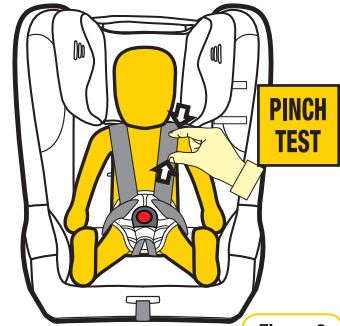

Figure 8
Step 6: Check the harness tightness by the **PINCH TEST**, this is achieved by pinching the harness webbing at the shoulders (refer Figure 8).